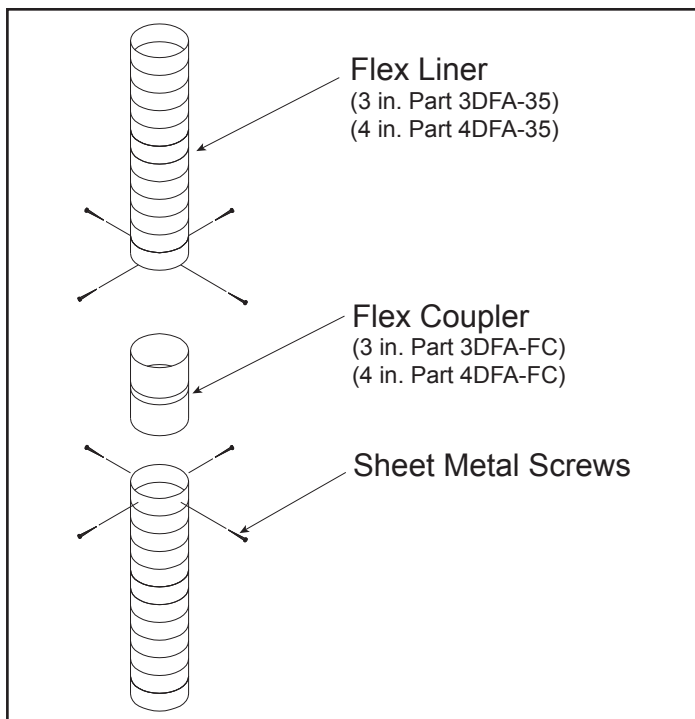

Figure 4.27
7. If additional lengths of flex liner are needed to span the chimney height, use a flex coupler to connect the pieces of flex liner together. Connect the flex to the coupler by using four sheet metal screws for each side, Figure 4.27.